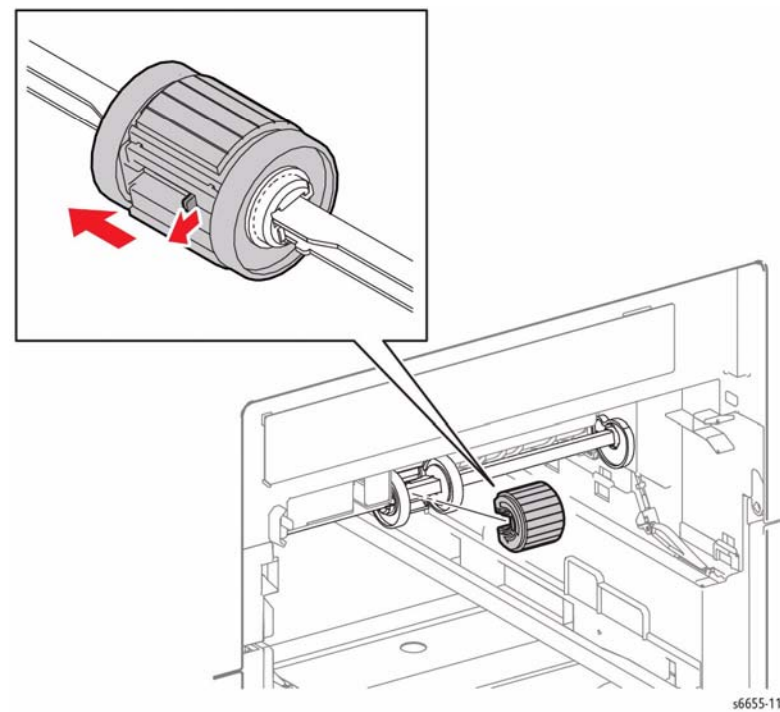

Figure 1 Remove the Feed Roller Assembly
4. Refer to Figure 1 to locate and release the tab holding the Feed Roller Assembly and remove the Feed Roller Assembly by sliding it to the right.
Rotate shaft into the position shown in Figure 1 then replace the roller by sliding it on from the front.